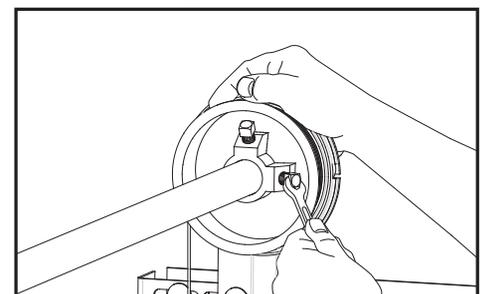

Fig. 5.2.3
- c) Once the cable is taut, slide the cable drum against the side bearing bracket and tighten the screws to the torsion bar. Fig 5.2.3.